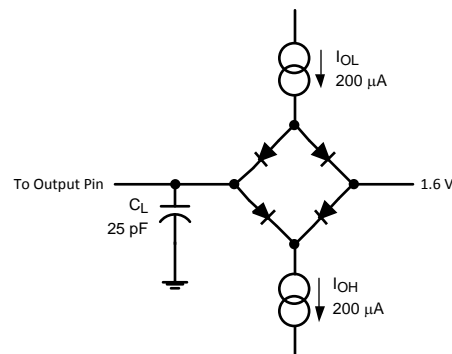

Figure 2. Timing Test Circuit
- (1) Measured with the timing test circuit shown in Figure 2 and defined as the time taken by the output signal to cross 1.0V .
(2) Measured with the timing test circuit shown in Figure 2 and defined as the time taken by the output signal to cross 1.0V or 2.0V .
(3) t_{DIS} is derived from the time taken by the outputs to change by 0.5V with the timing test circuit shown in Figure 2. The measured number is then adjusted to remove the effects of charging or discharging the output capacitance. This means that t_{DIS} is the true bus relinquish time, independent of the bus loading.